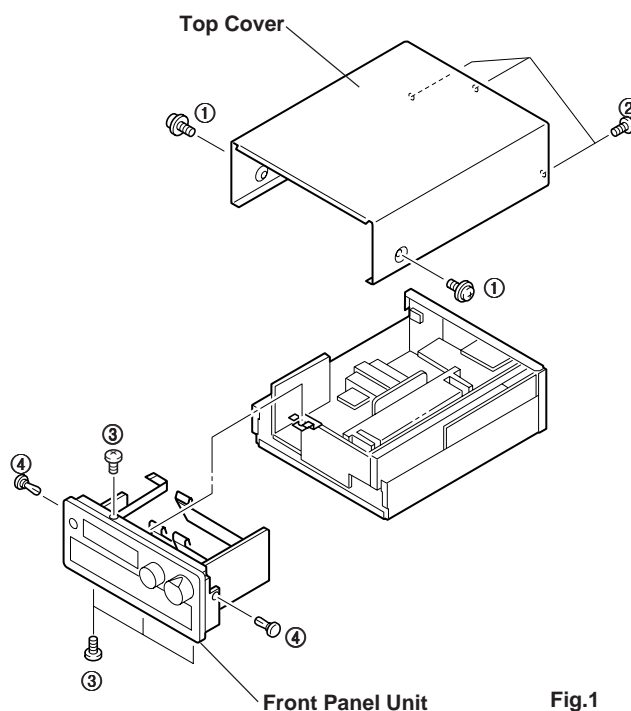

Fig.1
Remove 2 screws (①) and 3 screws (②) in Fig. 1.
- b. Remove 4 screws (③) and 2 plastic rivets (④) and then remove the Front Panel Unit in Fig. 1.